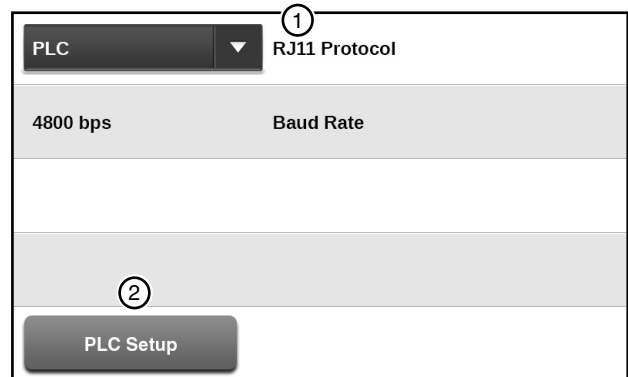

Figure 43-1 1. RJ11 Protocol 2. PLC Setup 3. GPS V2 4. Return
3. Select the **RJ11 Protocol** field and depending on which GPS position option is installed on the machine, choose either PLC (GPS Position Tower Box) or Valley GPS (Valley GPS Antenna) from the list. See Figures 43-1 and 43-2).